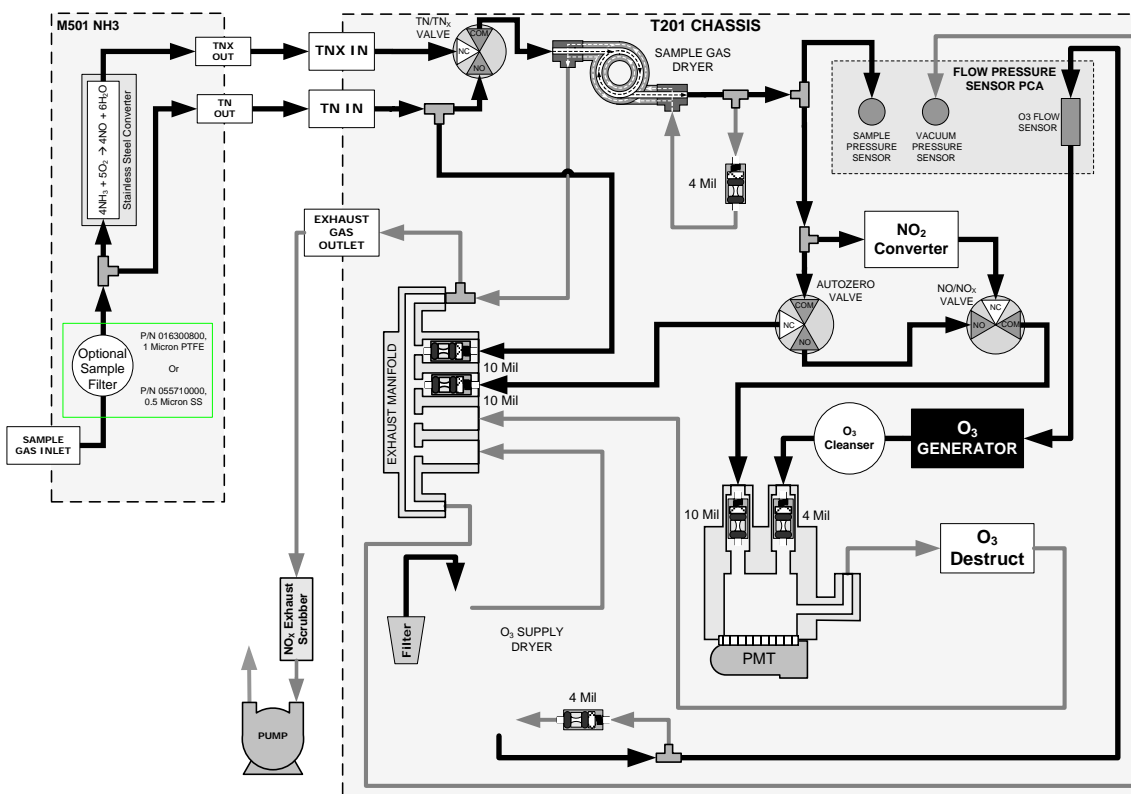

Figure 1-2. T201 and M501 NH₃ Pneumatic Flow
- The basic system is shown in Figure 1-2.